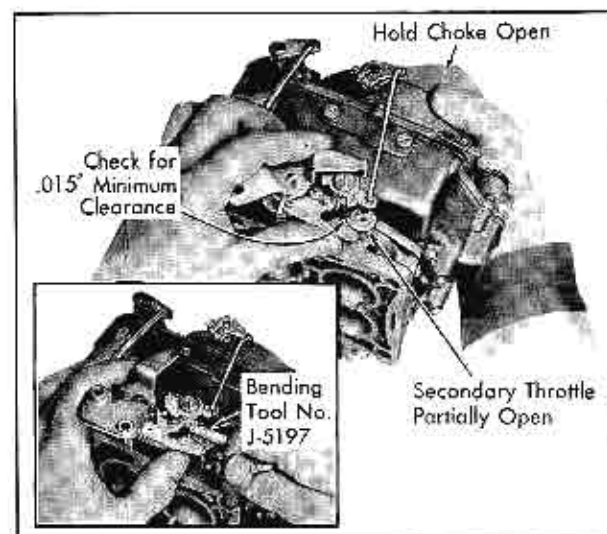

Fig. 12-41 Secondary Lockout-Choke Off
4. Open choke fully. Tang on cam trip lever should move secondary lockout cam to permit rotation of secondary throttle shaft when primary throttle is opened sufficiently, Fig. 12-41.
5. Adjust tang as required to obtain a minimum clearance of .015" between secondary throttle shaft tang and lockout cam, using Bending Tool No. J-5197, as shown in inset of Fig. 12-41.